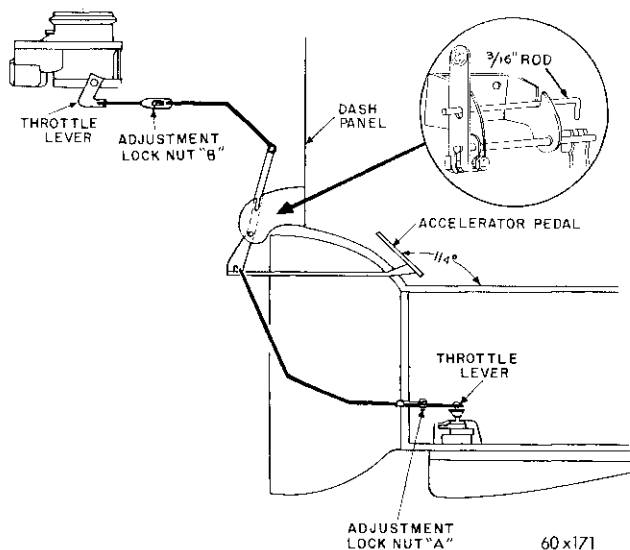

Fig. 4—Throttle Linkage Adjustment
b. Throttle Linkage Adjustments (Refer to Fig. 4)
(1) With the engine at operating temperature, carburetor off the fast idle cam and transmission in neutral, adjust idle speed to 475-500 r.p.m. (use tachometer).
(2) Loosen the throttle linkage adjustment lock nuts on both the carburetor rod and the transmission throttle rod.
(3) Insert a 3/16" rod or drill bit in the hole and open slot of the accelerator shaft bracket and into the elongated hole of the throttle lever.
(4) With the rod in position, hold the transmission throttle valve lever all the way forward (closed position), and tighten transmission to accelerator lever assembly rod adjusting lock nut "A", Figure 4.
(5) Remove rod from accelerator lever, shaft and bracket assembly.
(6) With the carburetor throttle lever off the fast idle cam and against the idle stop screw, move the rear half of the carburetor rod rearward until the stop in the transmission is felt, tighten lock nut "B", Figure 4.
(7) The accelerator pedal should be at an angle of 113 to 114 degrees to the horizontal. If necessary to correct, adjust pedal angle by removing the accelerator pedal end of the bellcrank to pedal rod, and shortening or lengthening the rod by loosening the lock nut at the swivel end and rotating the swivel. Reinstall the rod and tighten the lock nut. **Be sure the rod is properly aligned to prevent binding. Poor engine performance due to carburetor throttle not opening fully or lack of kickdown may result if accelerator pedal angle is incorrect.**